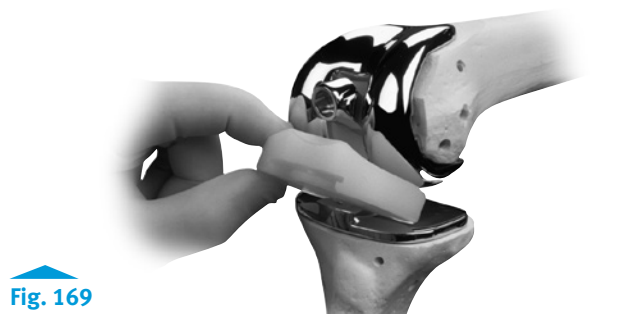

Fig. 169
- Place the tibial articular surface onto the tibial base plate and slide it forward until it engages the tab (Fig. 169). While distracting the joint, rotate the hinge post posteriorly until it drops into the hole in the middle of the articular surface (Fig. 170).